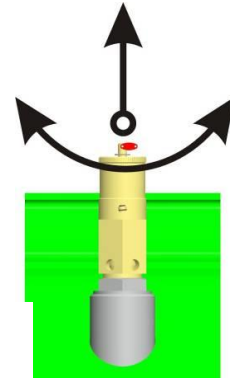

Fig. 12
19.6. Check safety valve operation (Fig. 12)